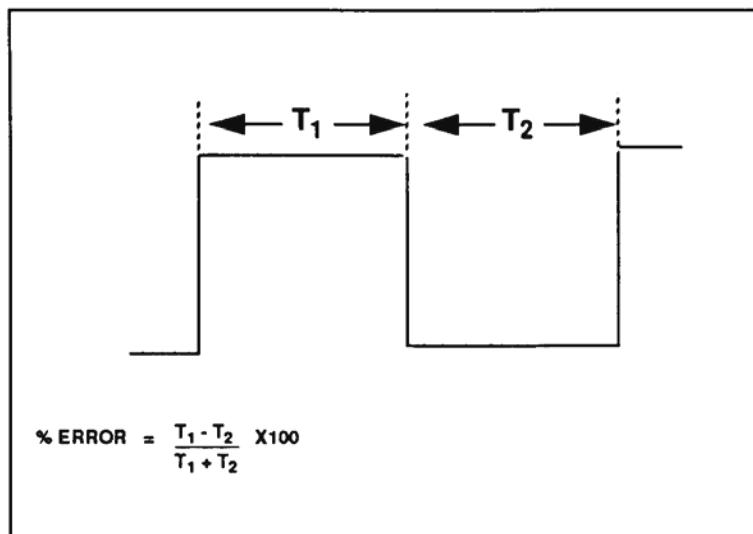

Figure 1. Symmetry waveform.
- (1) Connect oscilloscope to **FUNCTION OUT** using 50Ω feedthrough termination.
- (2) Turn frequency dial to **.02** and adjust **ATTENUATION VERNIER** control for a 5 V p-p indication on oscilloscope.
- (3) Adjust oscilloscope to display 1 cycle at 5 major divisions (horizontal).
- (4) Using a shorting lead, alternately short and open **VCG IN** terminal while observing oscilloscope display. If waveform shifts horizontally, perform **b** (1) below.
- (5) Disconnect oscilloscope from TI and connect TI to frequency counter.
- (6) Set **FREQ/PERIOD MULTI (Hz/s)** switch to **100K** and **VERNIER** control fully ccw. If frequency counter does not indicate 5 ms or greater, perform **b** (2) below.
- (7) Adjust frequency counter to measure symmetry of square wave. If T_1 is not within ± 0.5 percent of T_2 (fig. 1), perform **b** (3) and (4) below.
- (8) Position controls as listed in (a) through (c) below:
(9) Measure symmetry of square wave. If T_1 is not within ± 0.5 percent of T_2 (fig. 1), perform **b** (5) below.